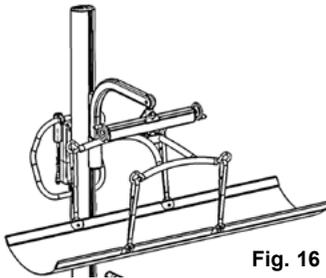
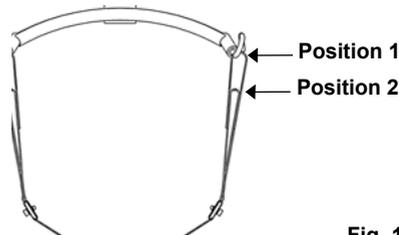

Fig. 16
Fig. 17
9. Attach the four Canvas Stretcher suspension straps to the Stretcher Adjustment Cradle (see Fig. 16). Either the longer or the shorter loops can be used, which ever are most appropriate for each individual patient, (see Fig. 17) but DO NOT mix both sizes.